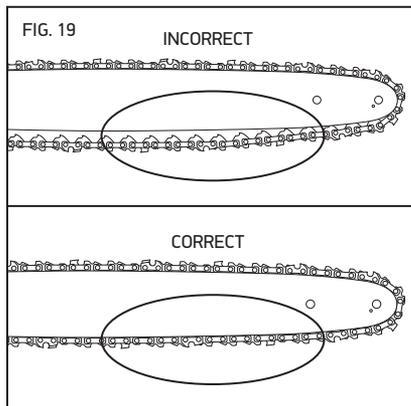

FIG. 19
- Tighten until the lowest cutters underneath the bar solidly contact the bar (Fig. 19).